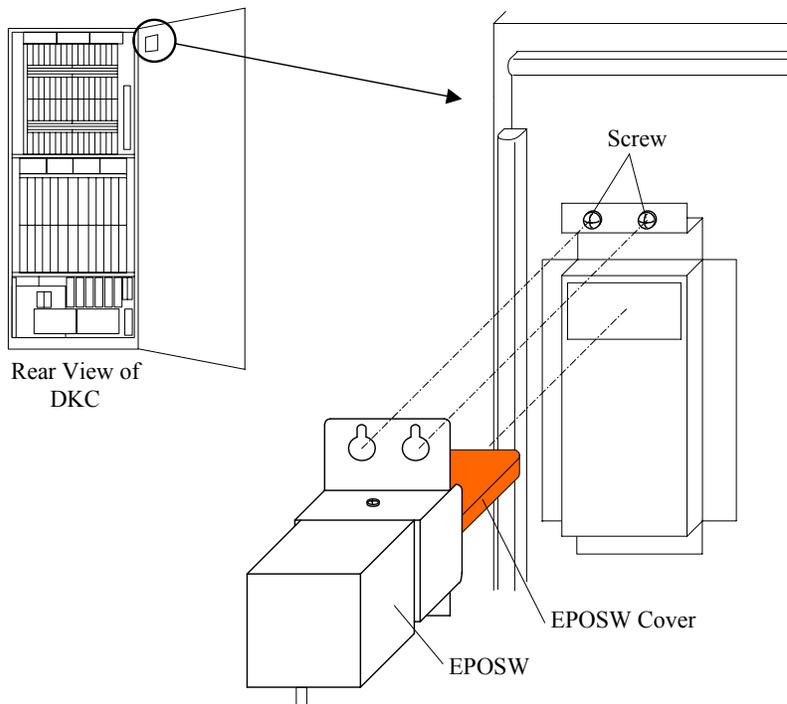

Fig. T2-2 Removal of EPOSW
- b. Attach the spare EPOSW with the two screws. Refer to Fig. T2-2.